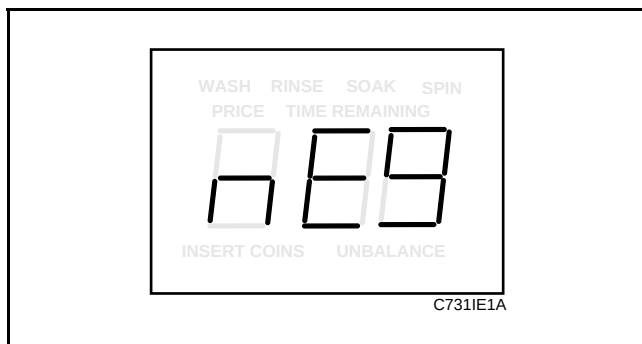

Figure 41
3. Press the DELICATES (+) pad or the COLD (-) pad to scroll through the programmable options until “nEg” appears in the VFD. See **Figure 41**.